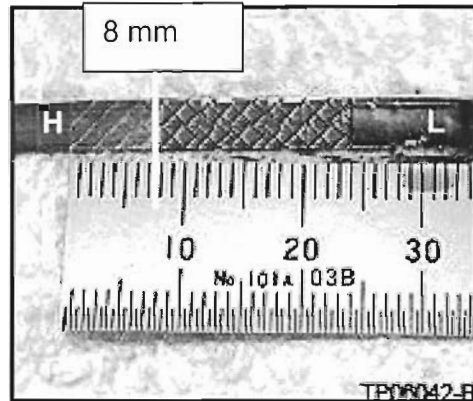

Figure 5
12. Park the vehicle on a level surface with the engine stopped for at least ten (10) minutes.
13. **Write down the exact oil level reading using the engine dipstick and ruler (see Figure 5).**
- The example in Figure 5 shows the oil level is 8 mm below the H mark.